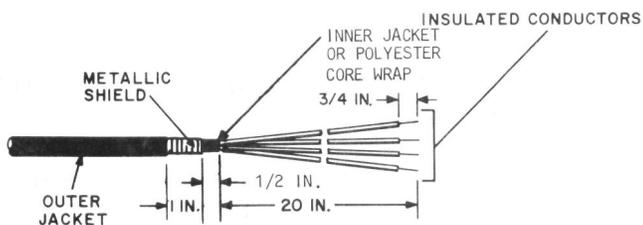
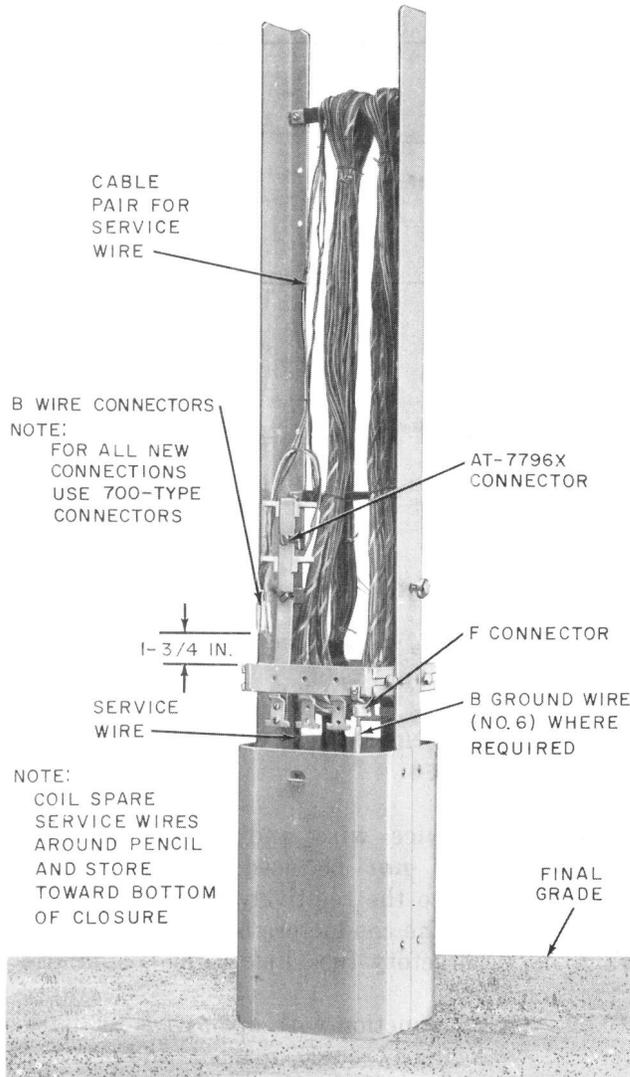

Fig. 19—Prepared Service Wire—LD Type Cable Closure
Fig. 20—Service Wire Installed—LD Type Cable Closure
5.13 Prepare the service wire as shown in Fig. 19 and terminate as shown in Fig. 20.